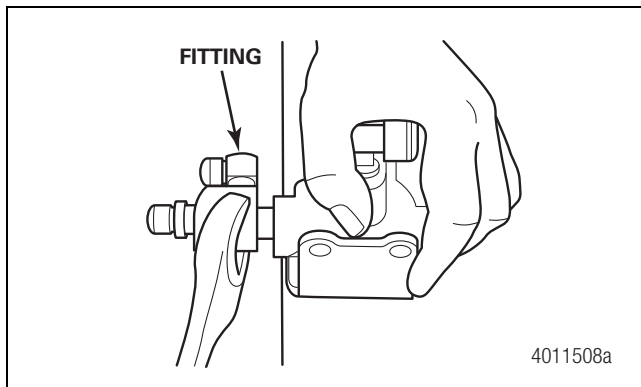

Figure 6
4. Apply a thin coating of PTFE thread sealant to the appropriate-size, D.O.T.-approved fittings and install the fittings into the new valve. Do NOT use Teflon-based tape. Tighten the fittings to approximately 1-1/2 to 2-1/2 turns past finger tight. Do not overtighten the fittings. Figure 6.